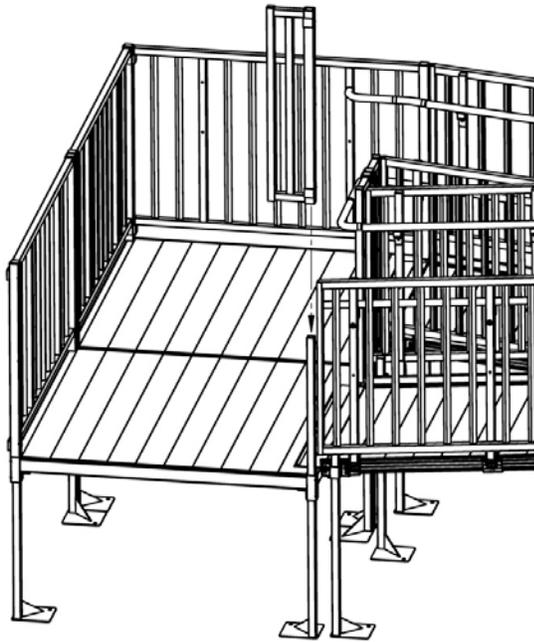

FIG. 1
- 2.1.1 On the side of the platform adjacent to the ramp (where a platform guard would normally go) install a filler section over the platform leg closest to the ramp with the tab brackets facing out and capped (FIG. 1).